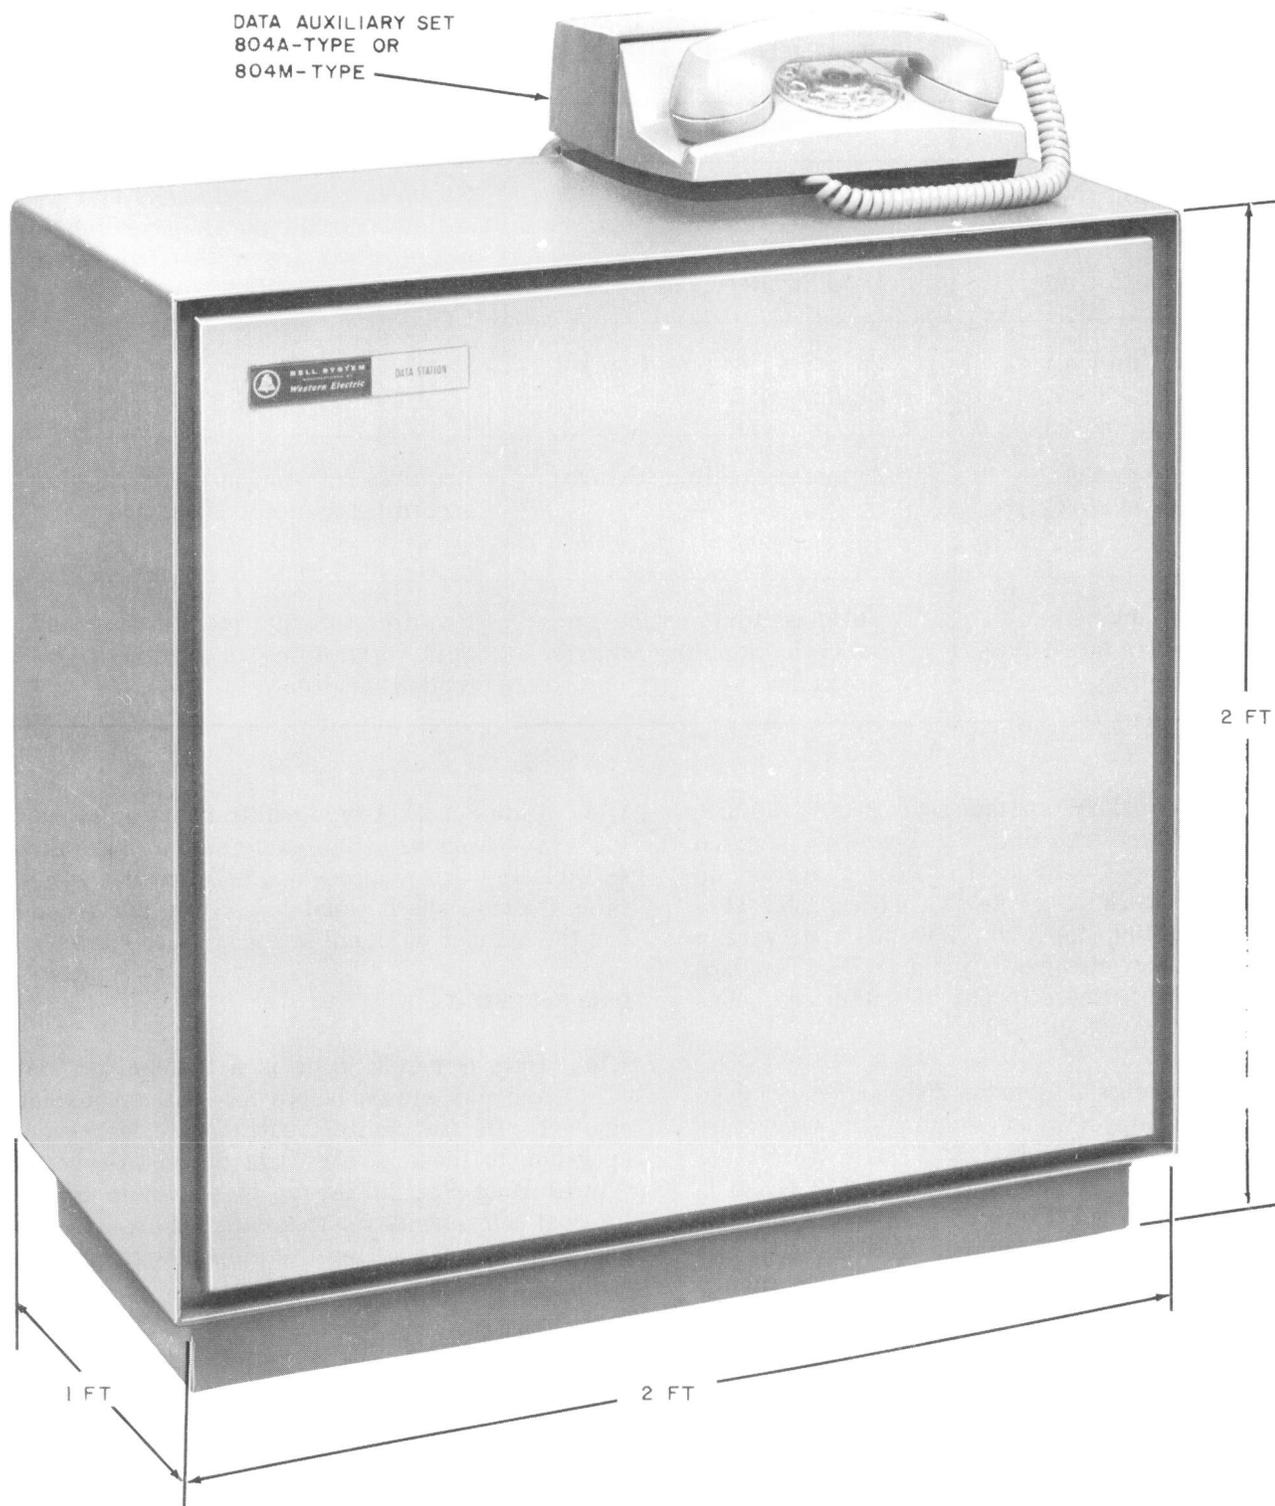

Fig. 1—A Typical Data Set 203-Type Installation With DAS 804-Type
**1.09** Table A lists the optional data units and data auxiliary sets used with Data Set 203-type. A typical Data Set 203-type installation is shown in Fig. 1. Table B lists the function and data units for the main data set codes without regard to speed or auxiliary channel options.